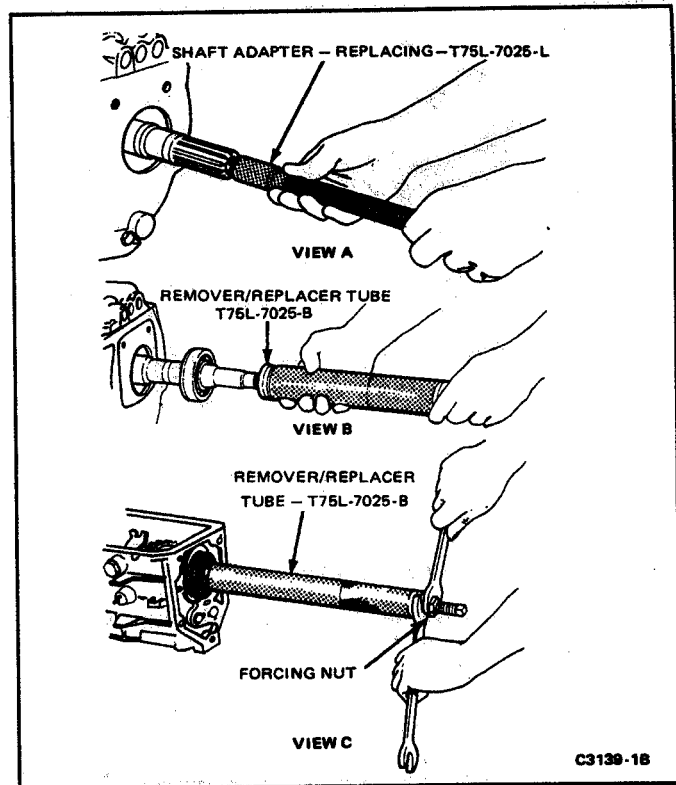

FIG. 16 Installing Output Shaft Bearing
13. Install the output shaft bearing using the tools T75L-7025-B, L, as shown in Fig. 16.